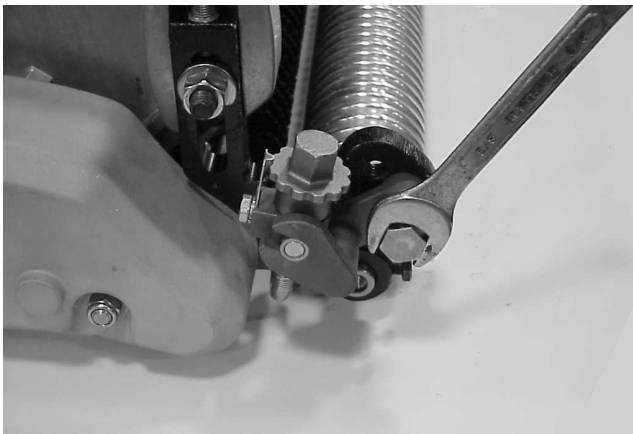

Figure 23
- Loosen the bolts on the right and left groomer arms (Fig. 23).